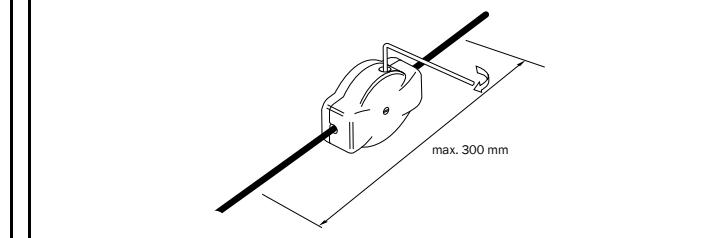

Fig. 9: Tightening the rope with the tensioner.
- Adjust required rope tension at tensioner (Fig. 9). Caution: when tightening the rope with the tensioner, do not reduce rope length by more than 300 mm.